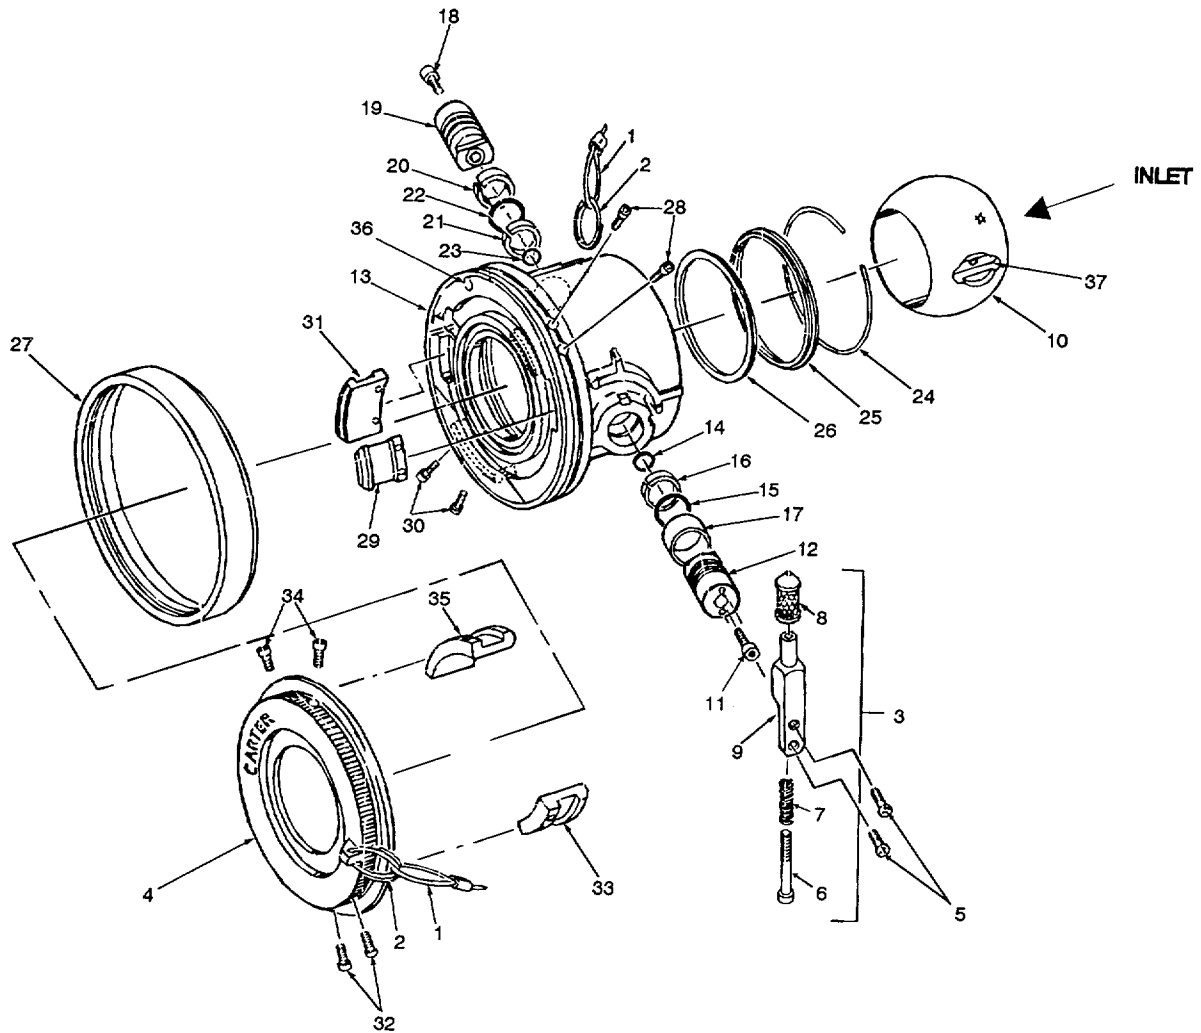

Figure 5-7. Three-Inch Valved Unisex Coupling
5.5 REPAIR THREE-INCH VALVED UNISEX COUPLING. (Refer to figure 5-7.)